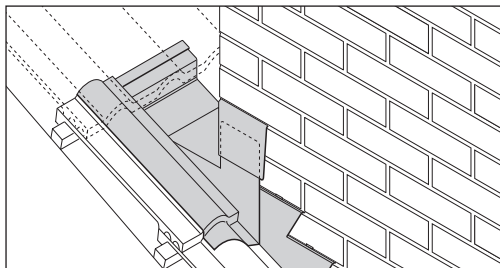

Fig 72 – Back gutter
- Dress upper edge of lead over tilting fillet and turn it back to form a welt (Fig 72).